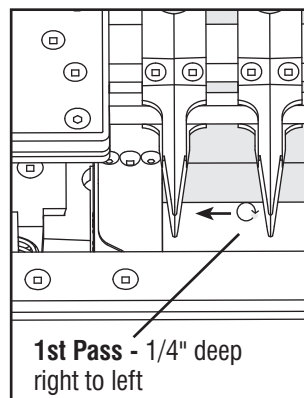
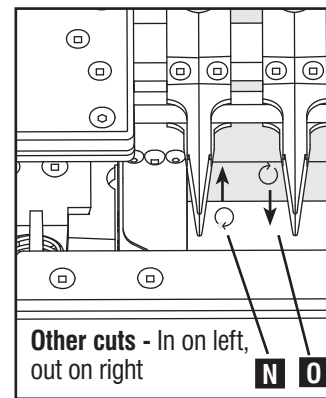
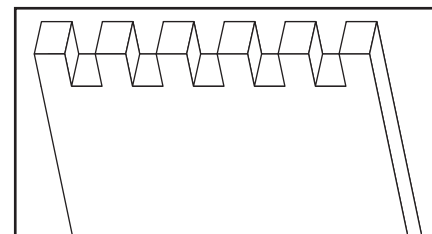

Fig. I10
Fig. I11
Fig. I13
9. To reduce tearout, the first pass (Fig. I10) of each area to be cut should be from right to left. Only a light cut is required, no deeper than a 1/4" for example. For proceeding cuts (Fig. I11), the router should enter from the left (N) and exit from the right (O). continue until cutting is complete and the final cut should resemble Fig. I13.